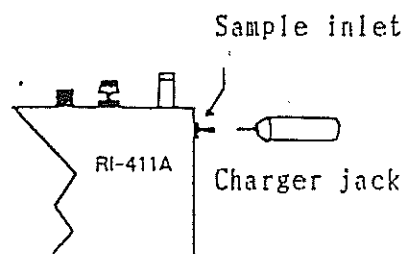

fig 5
- 2) After the zero adjustment, insert the span gas for span adjustment and introduce the gas to the detector by pushing the span gas can for 2~3 times in a moment. The gas concentration value of monitor is almost same as gas concentration value described on the label of span gas can. When the indication on display is became to stable after introduction of span gas, adjust the indication of gas concentration value described on the label of span gas can by inserting the small minus driver to span adjustment V.R (SPAN) (Refer to fig 5)
- 3) After the calibration, remove the gas existing in detector by turning the selector switch ⑦ from "CAL" position to "CONT" position.
- 1) Confirm that the selector switch ⑦ is "OFF" position.
- 2) Connect the charger to "CHG" position by removing the rubber cap for "CHG" of side panel and make the charging. (Refer to fig 5)